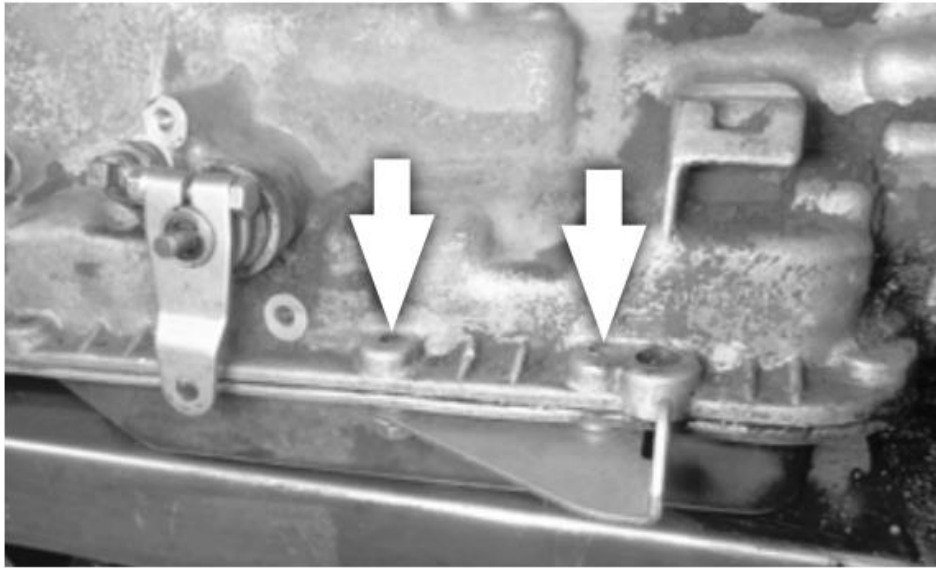

Figure 20
- b. C6:** install the cable bracket at the two left rear oil pan bolt holes, using the two 5/16"-18 x 1.0" bolts and spring washers (figure 20). For stamped steel pans, use the two provided spacers between the pan and bracket (not required for cast pans). Tighten the bolts to 12 ft-lbs (16 Nm).